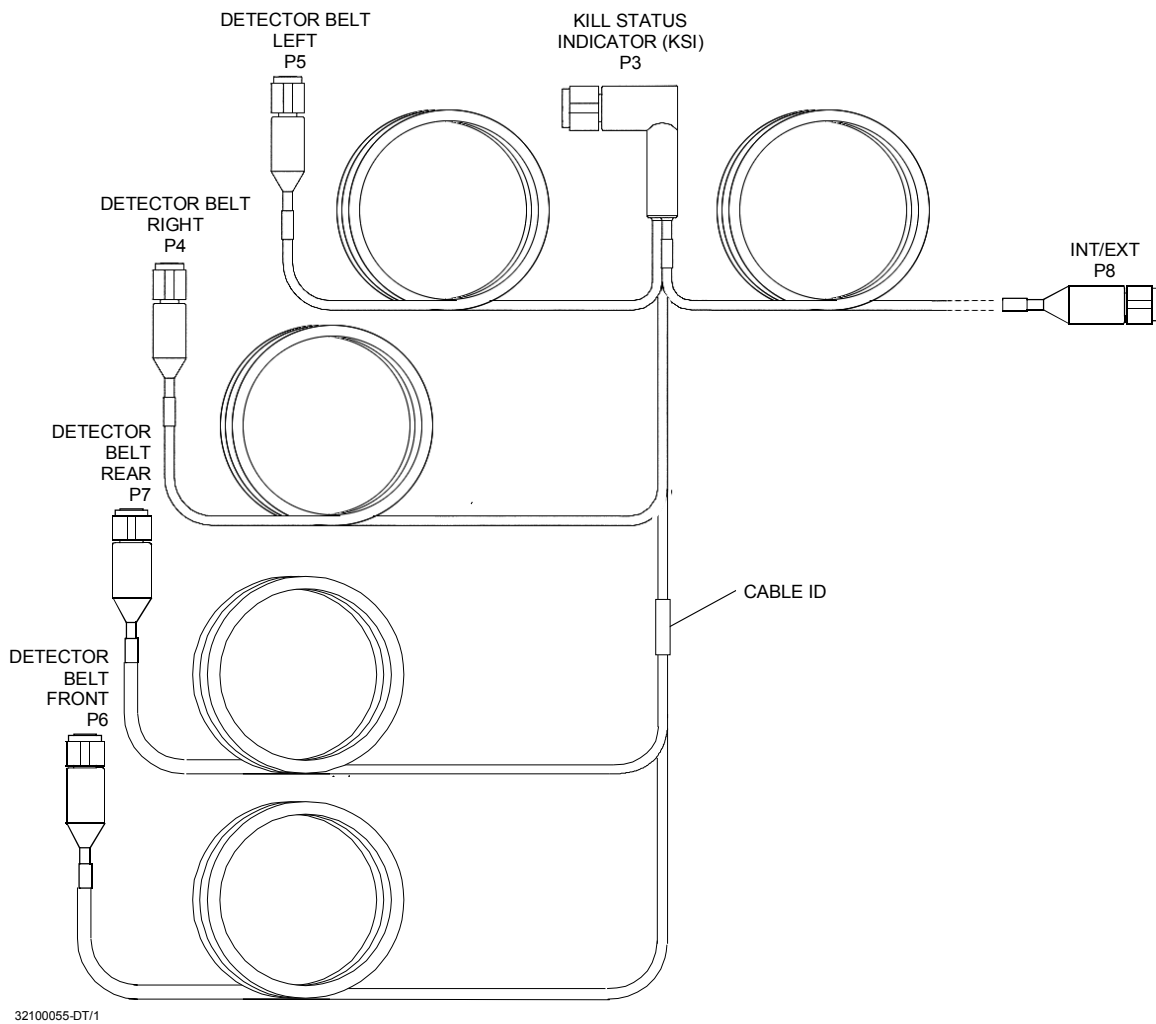

Figure 2-12. External System Cable.
- g. Using the four (4) previously removed bolts, secure the KSI and mast assembly to the ventilator aspirator. Ensure that the KSI and mast assembly are securely mounted.
2.3.1.5 External System Cable. (See Figure 2-12.)